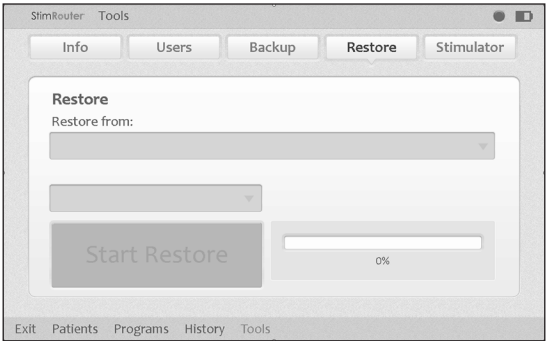

Figure 9-6: Restoring the Clinician's Programmer database.
- 3. From the "Restore from" drop-down list, select SD Card drive. **See Figure 9-6.**